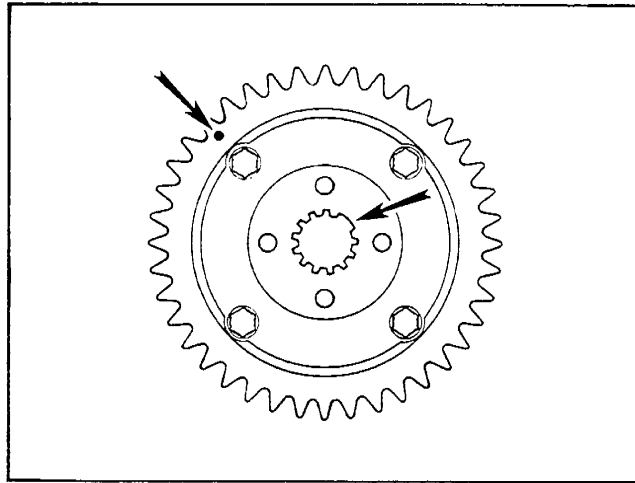

Fig. 1
4. Fit the driving flange to the chain wheel with the master spline and timing mark in the relative positions shown in Fig. 1. Position the flange so that its securing bolts are central in the adjusting slots.